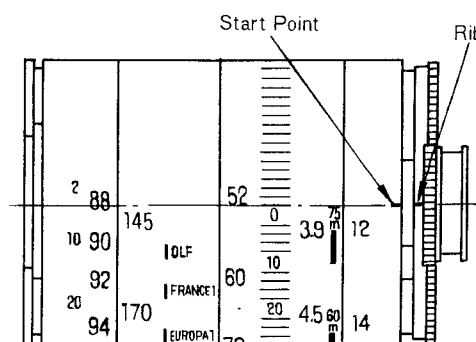

Fig. 4
6. Set the start point of the dial scale with the rib, as shown in fig. 4.
- 8. Set the start point of the dial scale with the rib, as shown in fig. 4.